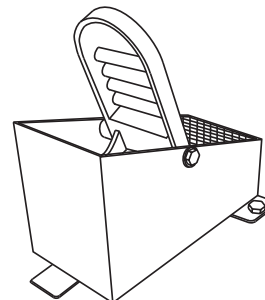

Figure 11. Blade Speed Control Foot Pedal
3. The right foot pedal (Figure 11) controls blade and engine speed. The position of the foot pedal determines the blade speed. Slow blade speed is obtained by slightly depressing the pedal. Maximum blade speed is obtained by fully depressing the pedal.